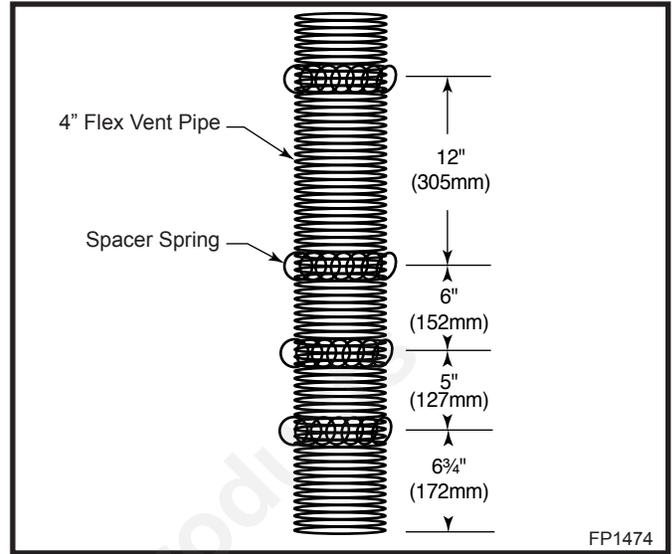

Fig. 36 Install spacer springs.
Install the four (4) spacer springs on the 4" flex vent pipe. When installing the spacer springs around the 4" pipe, stretch the spring to approximately 15" (381 mm), wrap the spring around the pipe and interlock the ends of the spacer spring approximately 2" (51 mm). Measure 6¾" (172 mm) from the end of the pipe. Place the next spring 5" (127 mm) from the previously installed spring. Place the next spring 6" (152 mm) from the last spring. Finally place the last spring 12" (305 mm) from the last spring installed. (Fig. 36)